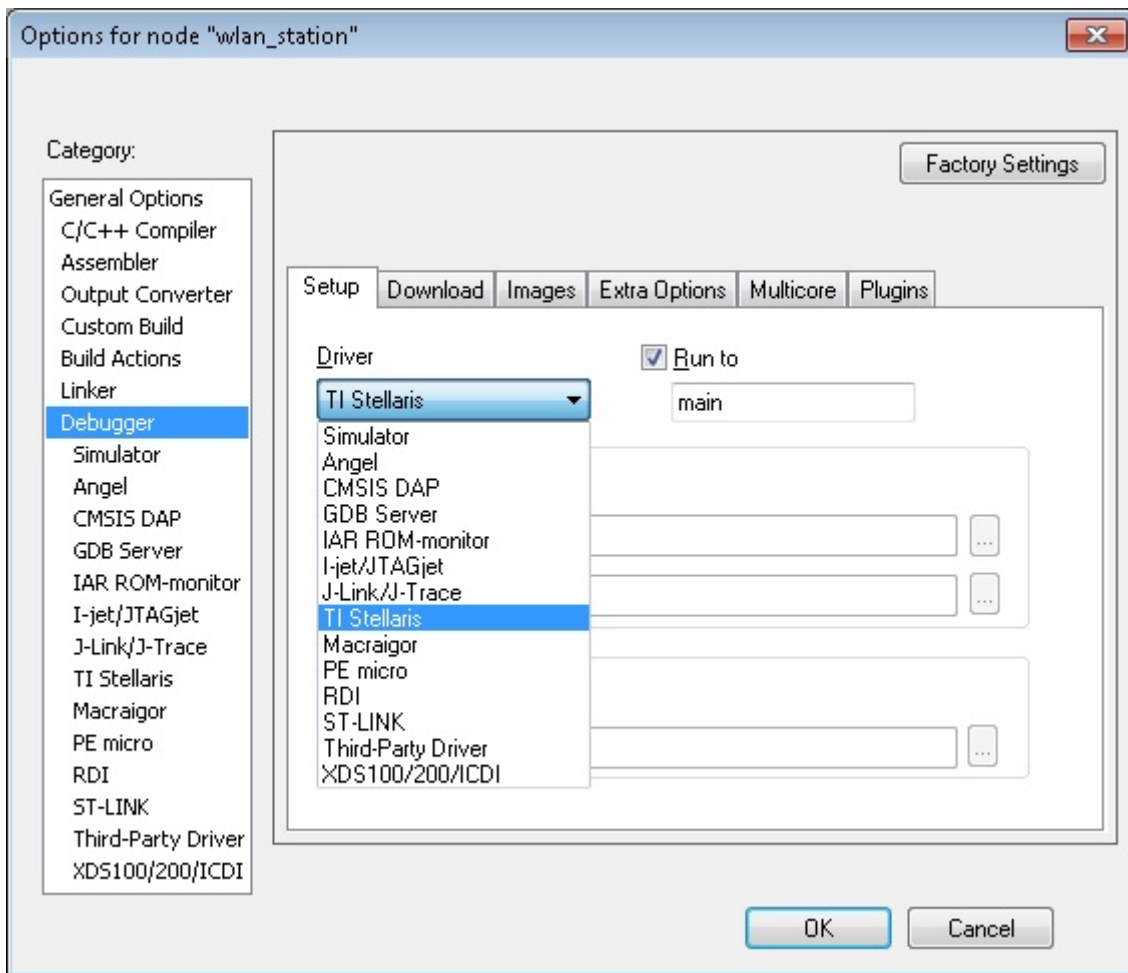

Figure 21. Select TI Stellaris Driver
6. The debugger must be configured to download code to the device. Select *Project>Options* from the menu, and select the Debugger category. In the Setup tab, choose TI Stellaris as the driver, as shown in Figure 21, and press OK.